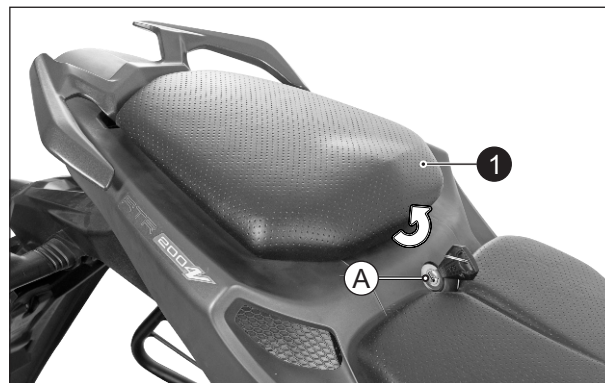

Fig. 2.1
- Insert the ignition key into the seat lock (A).
- Turn it in clockwise, then pull and release the front section of the seat (1) first, followed by the rear section as shown in the figure. (Fig. 2.1)
- To remove the utility box (A), remove the rear seat. (refer Fig. 2.1)
- To remove the front seat (2), remove the rear seat (refer Fig. 2.1) and take out the key from the lock.